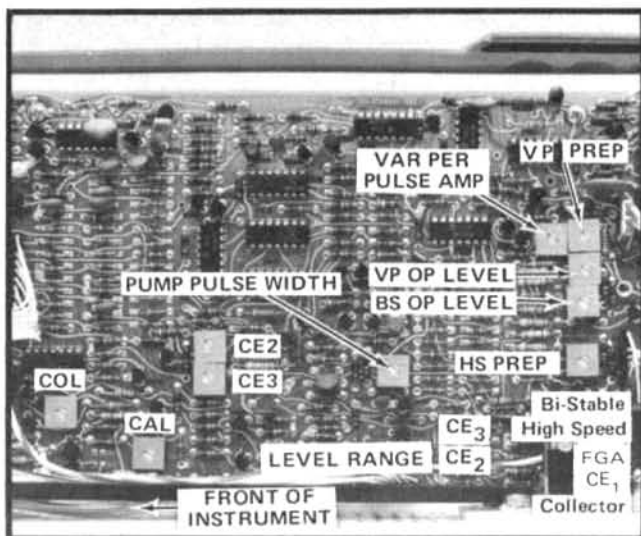

Fig. 2-10. Storage adjustments and storage test points (Cal-Storage board).
## 42. Check—Storage Test points (see Fig. 2-10)
f. CHECK—Storage test points (see Fig. 2-10). Table 2-4 lists the Storage test points and their voltage tolerances in the Bi-Stable mode. Connect the test oscilloscope 10X probe to each storage test point, in turn setting the test oscilloscope vertical deflection to 1.0 V, 2.0 V, and 5.0 V as required.
j. CHECK—Storage test points (see Fig. 2-10). Table 2-5 lists the storage test points and their voltage tolerance. Connect the test oscilloscope 10X probe to each storage test point, in turn, setting the test oscilloscope vertical deflection to 1.0 V, 2.0 V, and 5.0 V as required.
e. Find lower writing threshold; adjust R1325 toward the zero volt level until the storage screen starts to go dark (see Fig. 2-10 for location of adjustments).
i. CHECK—Storage test points (see Fig. 2-10). Table 2-6 lists the storage test points and their voltage tolerances. Connect the test oscilloscope 10X probe to each storage test point, in turn, setting the test oscilloscope vertical deflection factor to 1.0 V, 2.0 V, and 5.0 V as required.
l. CHECK—Storage test points (see Fig. 2-10). Table 2-7 lists the storage test points and their voltage tolerances. Connect the test oscilloscope 10X probe to each storage test point, in turn, setting the test oscilloscope vertical deflection factor to 1.0 V, 2.0 V, and 5.0 V as required.
p. CHECK—Storage test points (see Fig. 2-10). Table 2-8 lists the storage test points and their tolerances. Connect the test oscilloscope 10X probe to each test point, in turn, setting the deflection factor to 1.0 V, 2.0 V, and 5.0 V as required.